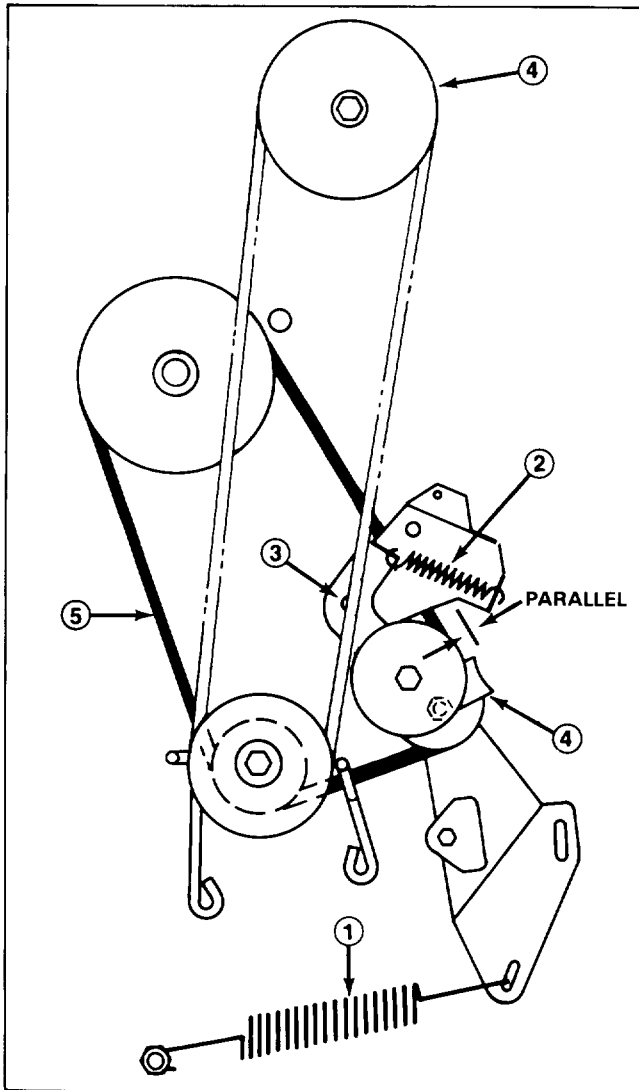

Figure 21
7. Unhook large traction spring from mounting screw (Fig. 21). Use caution when removing spring as it is heavily tensioned.
8. Unhook idler spring from idler bracket (Fig. 21).
9. Remove locknut and washer securing idler bracket to frame and remove bracket (Fig. 21).
10. Loosen the locknut on pulley until belt guide can be removed (Fig. 21). Remove belt from all pulleys.
Note: When reinstalling belt guide to idler pulley, make sure edge of belt guide is parallel to belt as shown in Figure 21.